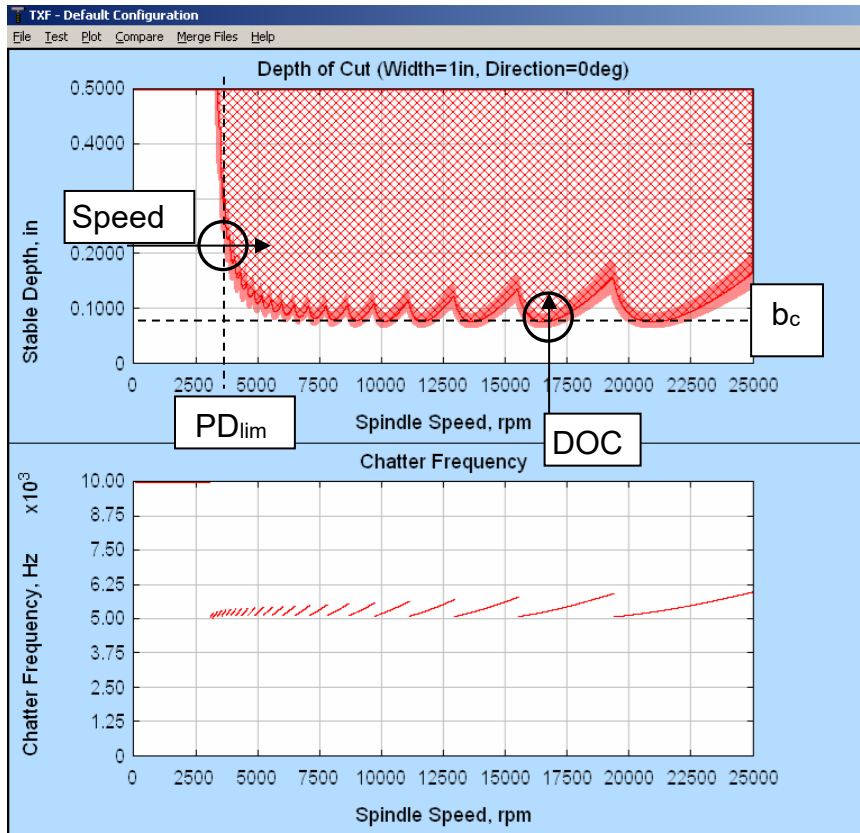

Figure 71: Stability Lobe Diagram
In the procedural description we will refer to the general stability graph in Figure 71.
- At some high speed select a “worst” case spindle speed (~16250 rpm in Figure 71). This spindle speed corresponds to the bottom of a lobe, (i.e. a depth of cut that produces a critical limit value (b_{cr}) from the stability chart).
So for the example in Figure 71 you would start at a depth of cut of 0.04” or 0.06” and then increment in steps of 0.01”.
- Evaluate at what spindle speed the depth of cut asymptotically rises to a maximum, labeled PD_{lim} (on the left side of the graph in Figure 71). Use $\frac{1}{4}$ to $\frac{1}{2}$ of this speed as the starting speed. For DOC use 2 times the limit value that was found in the DOC tests.
So for the example in Figure 71, PD_{lim} is at 3750 rpm so you would start at 1875 rpm. The depth of cut would be between 0.16” and 0.2”. You would increment your spindle speed by 10 rpm for each cut, yielding 3750, 3790, 3830, 3870, etc until you get chatter.